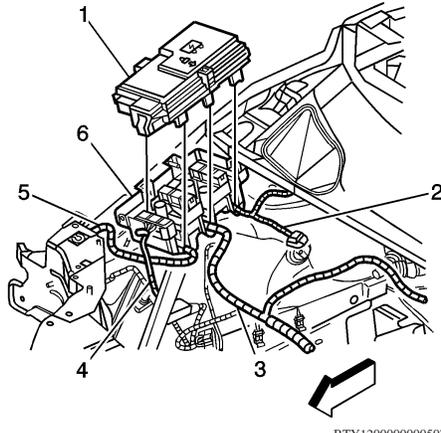

**Fig. 1 Underhood electrical center cover removal**
4. Remove underhood electrical center cover (2), **Fig. 1**.
5. Remove underhood electrical center mounting bolts (3), **Fig. 1**.
10. Install underhood electrical center mounting bolts (3), **Fig. 1**. **Torque** bolts to 89 inch lbs.
11. Install underhood electrical center cover (2), **Fig. 1**.